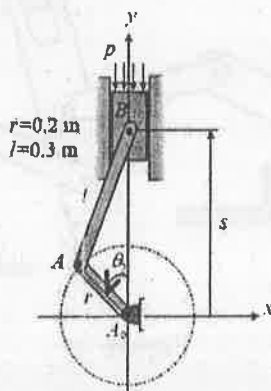

Figure 2
4. For the slider-crank mechanism shown in Figure 2, draw the schematic velocity diagram when  $\theta_2 = 90^\circ$ .